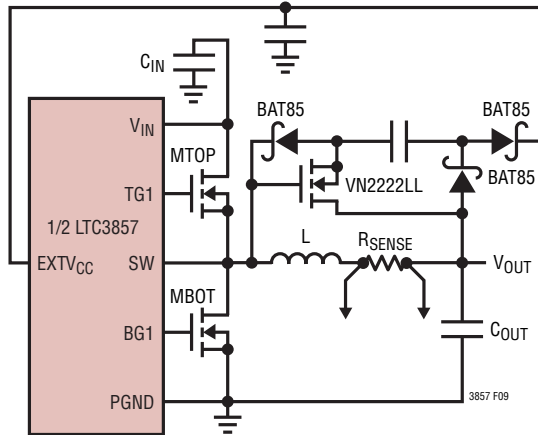

Figure 9. Capacitive Charge Pump for EXTV_{CC}
4. EXTV_{CC} Connected to an Output-Derived Boost Network. For 3.3V and other low voltage regulators, efficiency gains can still be realized by connecting EXTV_{CC} to an output-derived voltage that has been boosted to greater than 4.7V. This can be done with the capacitive charge pump shown in Figure 9. Ensure that EXTV_{CC} < V_{IN}.